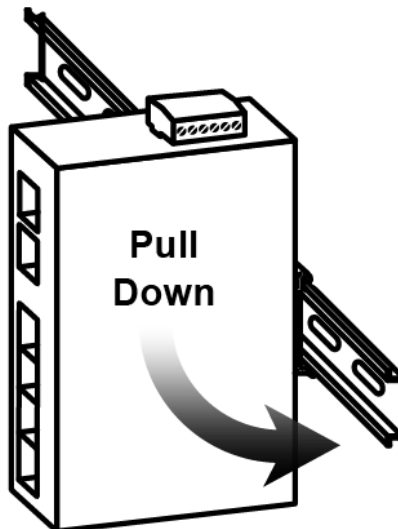

Figure 3.3: Stable the Injector on DIN-Rail
- Step 4. Lightly pull down the bracket on to the rail as shown below in Figure 3.3.